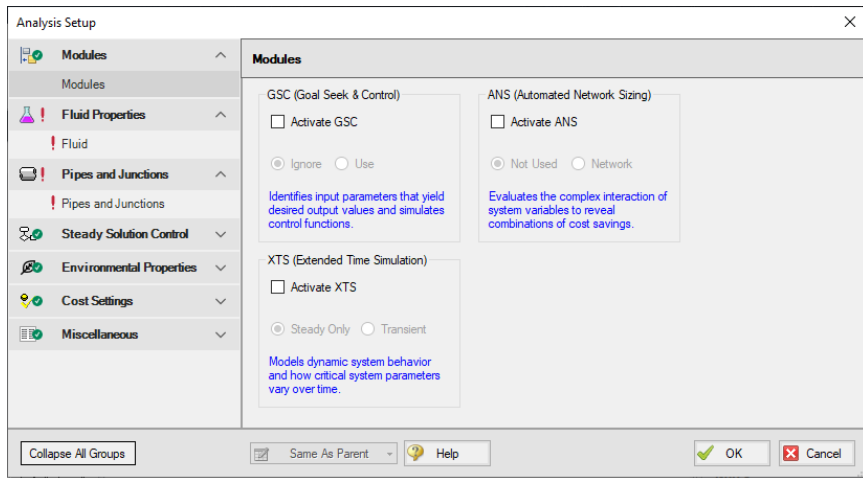

Figure 2.5 On the Modules panel, you can enable or disable any module
- **Next, click Analysis Setup on the common toolbar.** This opens the Analysis Setup window (see Figure 2.5). The Analysis Setup window contains six or more groups depending on which modules you may be using. Each group has one or more items. A fully defined group has every item within it defined with all required inputs. Complete every group to run the Solver. A group or item that needs more information will have a red exclamation point to the left of the group or item name. After completing a group, the group icon shows a green circle with a checkmark. After defining all groups, thus completing the Analysis Setup, the Model Status light in the lower right corner turns from red to green.
Under the Modules group, click on the Modules item to open the Modules panel, shown in Figure 2.5. Here you can enable and disable add-on modules. These add-on modules include Goal Seek & Control, Extended Time Simulation, and Automated Network Sizing. By default, the model will have all modules disabled. Therefore, make no changes to this panel for this example.